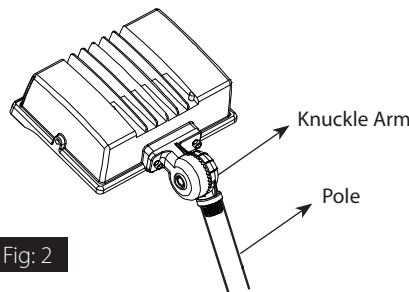

Fig. 2
3. The **Knuckle Arm** allows 180° of vertical aiming adjustment depending on the mounting position as shown in Fig. 2.
2. Feed **Housing** wires through **Slipfitter Bracket** and secure to the **Adapter Bracket** with (4) **Screws** as shown in **Fig. 2**.